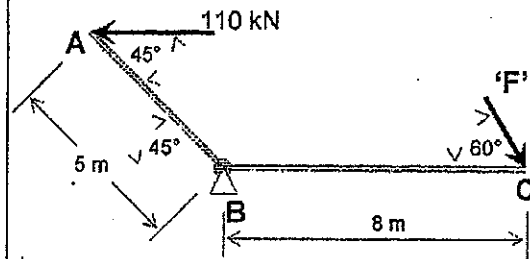

FIGURE 2
- 3.2 The structure shown in FIGURE 2 on the DIAGRAM SHEET (attached) supports a load of 110 kN and is held in equilibrium by the reaction force at the hinge and the force 'F'.